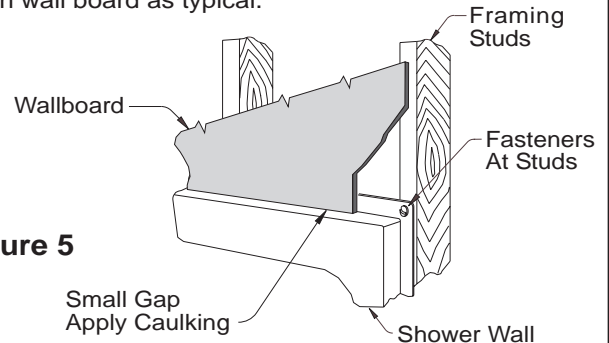

Figure 5
**11.** Install wallboard along unit. Wallboard should be installed so it covers the mounting flanges and mounting screws or nails. **See Figure 5**